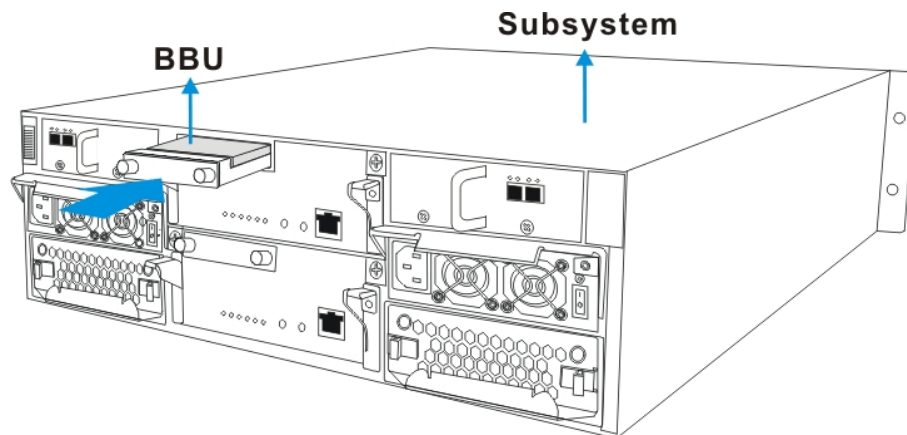

Fig. 2.2 Installing the BBU
2. Install the new BBU. Align the new BBU with the slot, and then gently push the BBU into the slot, until the end of the BBU module reaches the end of the slot. (See Figure 2.2.)